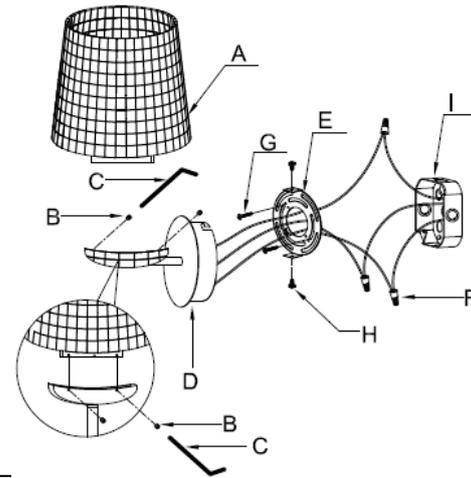

Fig.2
CONNECTING THE WIRES (FIG. 2)
5. At this point, connect the electrical wires as shown in Fig. 2, making sure that all wire connectors are secured. If your outlet has a ground wire (green or bare copper), connect the fixtures ground wire to it. Otherwise, connect the fixture ground wire directly to the mounting plate (E) using the green screw provided. After wires are connected, tuck them carefully inside the junction box.